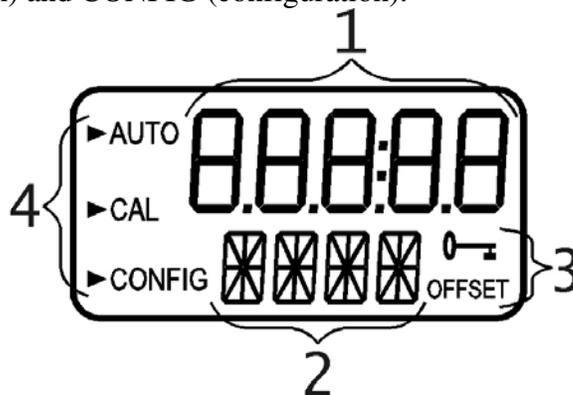

Figure 1: Display used in the instrument.
Figure 1 illustrates all the items that can appear on the display. The upper row of the display (1) is used for reporting the chlorine levels and to provide user guidance in the customer setting routine. The lower row of the display (2) is used to communicate error messages (message queue) and provide user guidance. The display has two icons (3) that are used to indicate the use of access code and offset mode. In addition, mode arrows (4) are used to indicate the current instrument operating mode; AUTO (normal operation), CAL (calibration) and CONFIG (configuration).